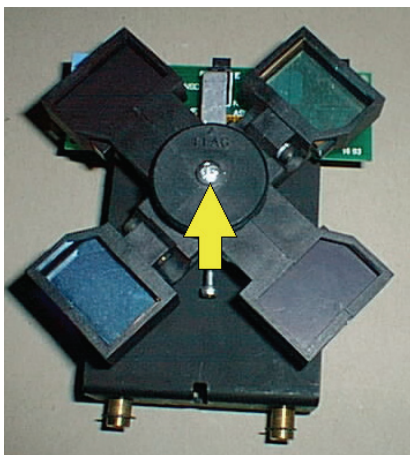

Figure 89 The central screw
2. Undo the central screw, as shown in Figure 89.